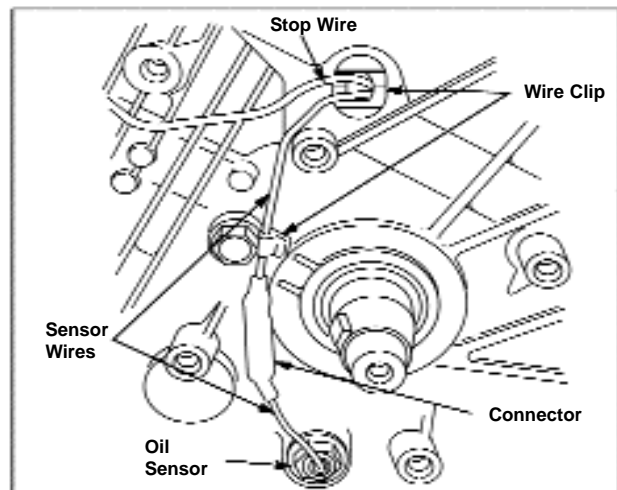

Figure 66 - Oil Sensor Wiring
1. Install stop switch wire on armature, Figure 66.